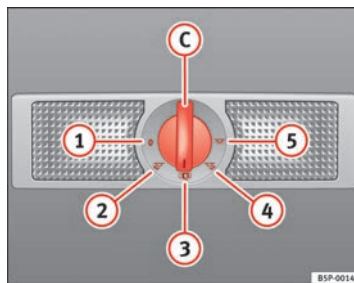

Fig. 83 Interior roof trim: rear interior lights and reading lights.
The switch \Rightarrow fig. 83 (C) is used to select the following positions:
In switch position \Rightarrow fig. 83 (1), the interior and reading lights are switched off.